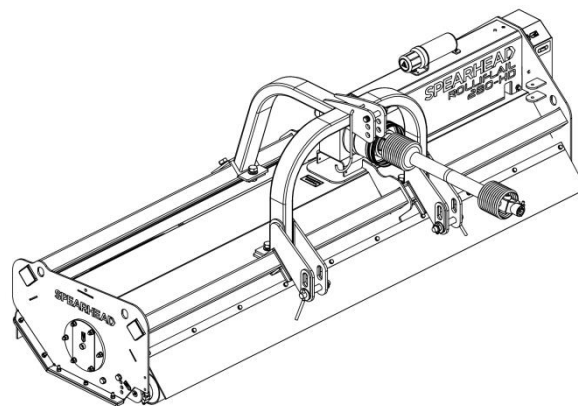

Figure 1.9
- 1.5.1.16 The machine is now ready for front mounting, see Figure 1.9.